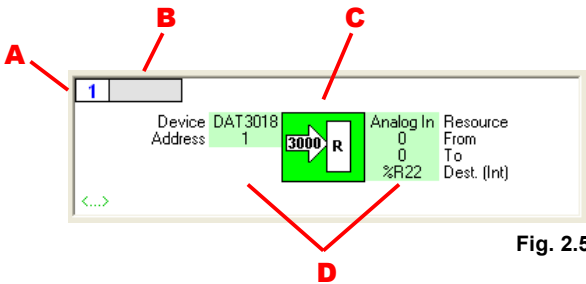

Fig. 2.5
- Index (Fig.2.5-A): unique number that identifies the position of the block inside the Program.
- Label (Fig.2.5-B): unique label that identifies the Function Block inside the Program (used for the functions of the “Flow” functional group, refer to section “Function description”).
- Symbol (Fig.2.5-C): icon relative to the function to be inserted.
- Variable (Fig.2.5-D): parameter of the Function Block.